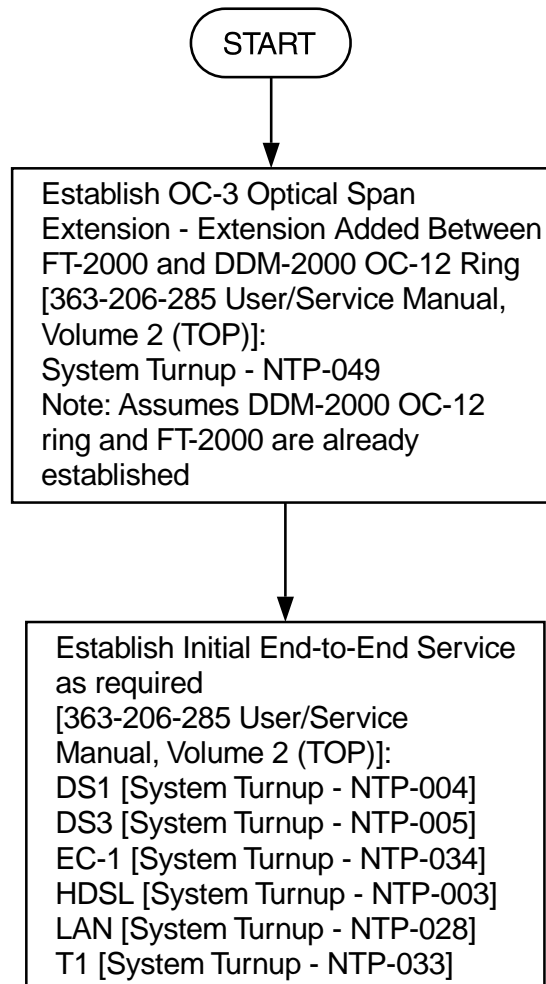

Figure 18 – DDM-2000/FT-2000 Large Network Configurations — OC-3/IS-3 Optical Span Extension Between DDM-2000 OC-12 Ring and FT-2000 OC-48
- Figure 18 DDM-2000/FT-2000 Large Network Configurations — OC-3/IS-3 Optical Span Extension Between DDM-2000 OC-12 Ring and FT-2000 OC-48